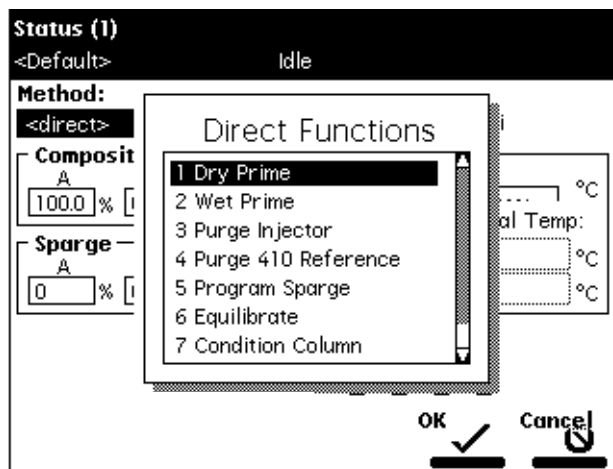

Figure 2-8 Direct Functions Menu for the Program Sparge Option
1. Press the **Direct Function** screen key in the Status screen. The Direct Functions menu appears (Figure 2-8).